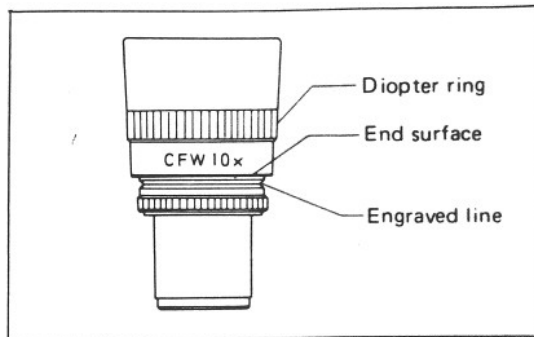

Fig. 5
- (1) Turn the diopter ring on each eyepiece, until the end surface of the milled ring coincides with the engraved line, as shown in Fig. 5.